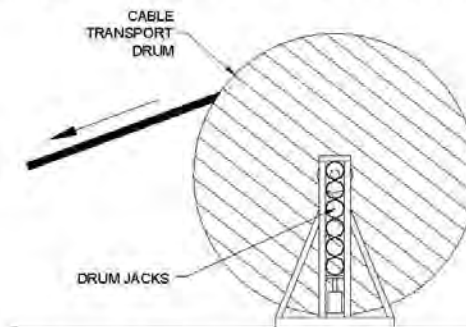

Figure 5 – Cable Transport Drum
- 5.1.3 The transport drum should be supported on stands or rollers to allow free rotation. The cable must always be pulled from the top of the drum. Refer to Figure 5.